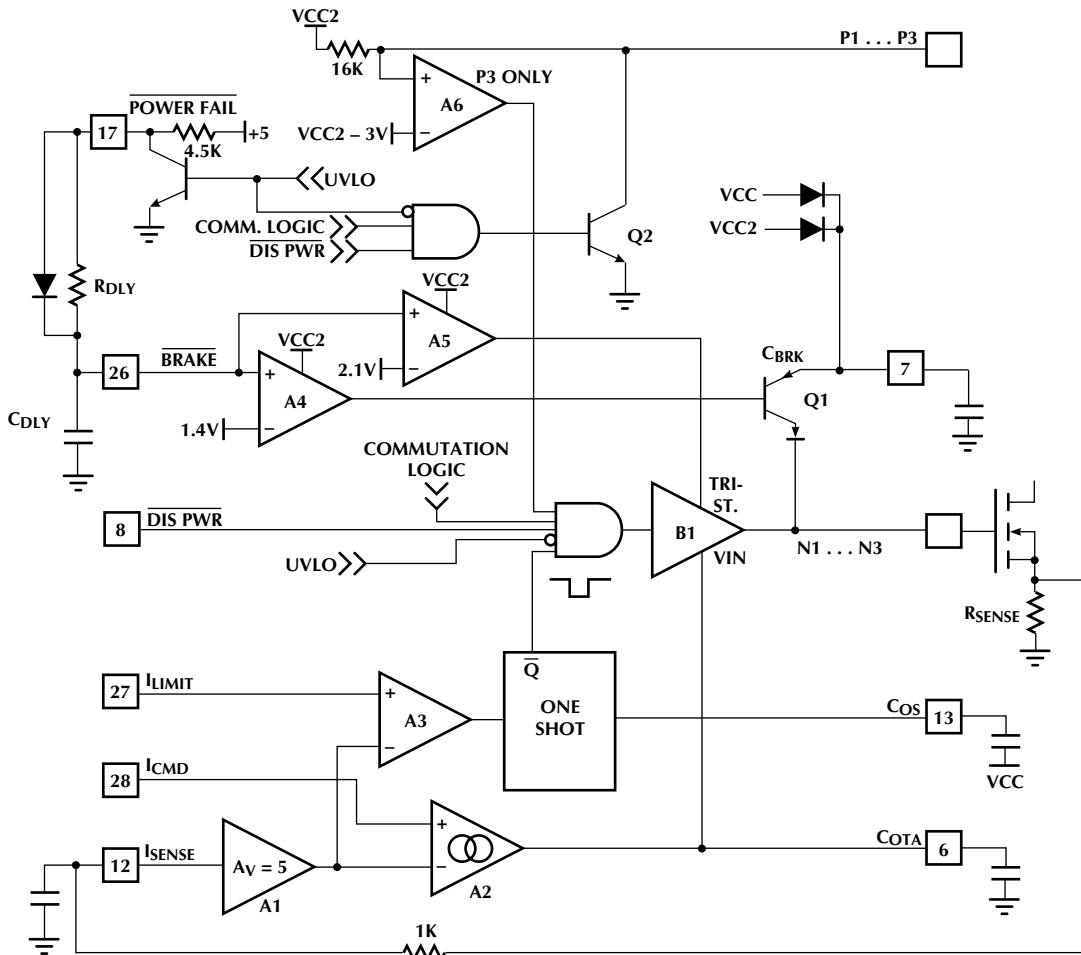
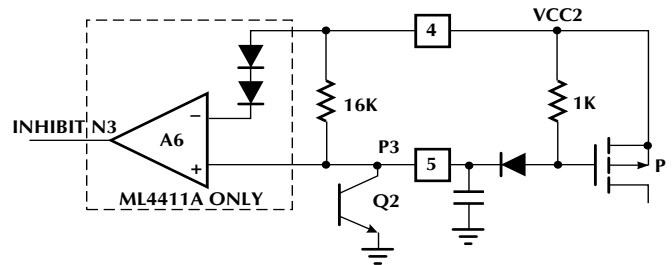

Figure 9. Current Control, Output Drive and Braking Circuits.
Figure 13. Alternate cross-conduction prevention for ML4411A
To facilitate speed control, the ML4411 includes two current control loops — linear and PWM (figure 9). The linear control loop senses the motor current on the I_{SENSE} terminal through R_{SENSE} . An internal current sense amplifier's (A2) output modulates the gates of the 3 N-channel MOSFET's when OTA OUT is tied to OTA IN, or can modulate a single MOSFET gate tied to OTA OUT. When operated in this mode, OTA IN is tied to 12V, and N1-N3 are saturated switches. This method produces the lowest current ripple at the expense of an extra MOSFET.
As shown in figure 9, the braking circuit pulls the N-Channel MOSFET gates high when BRAKE falls below a 1.4V threshold. After a power failure, C_{DLY} is discharged slowly through R_{DLY} providing a delay for retract to occur before the braking circuit is activated. The N-Channel buffer (B1) tri-states when the BRAKE pin reaches 2.1V to ensure that no charge from C_{BRK} is lost through the pull-down transistor in B1. To brake the motor with external signals, first disable power by pulling pin 8 low, then pull pin 26 below 1.4V using an open drain (or diode isolated) output.
Since the output section in a full bridge application consists of three half-H switches, cross-conduction can occur. Cross-conduction is the condition where an N-FET and P-FET in the same phase of the bridge conduct simultaneously. This could happen under two conditions (see figure 13):
- When transitioning from mode 0 to mode A (see table 1) P3 goes from on to off at the same time N3 goes from off to on. If the P3 turns off slowly and N3 turns on quickly, cross-conduction may occur. This condition has been prevented inside the IC on the ML4411A through the addition of comparator A6 on the P3 output (Figure 9). This comparator may cause an oscillation when the N3 switches on due to the capacitive coupling effect described below pulling the P3 pin below VCC2-1.4V. To avoid this, use the circuit in Figure 13.